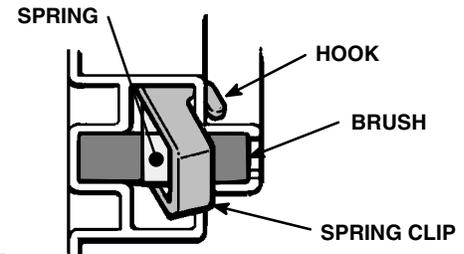

Fig 21-2
2. Push in the spring clip to release its hooks from the brush holder. Pull out the spring clip. See Fig 21-2.
7. Install the spring clip and push it down to hook it in the housing. See Fig 21-2 and 21-4.